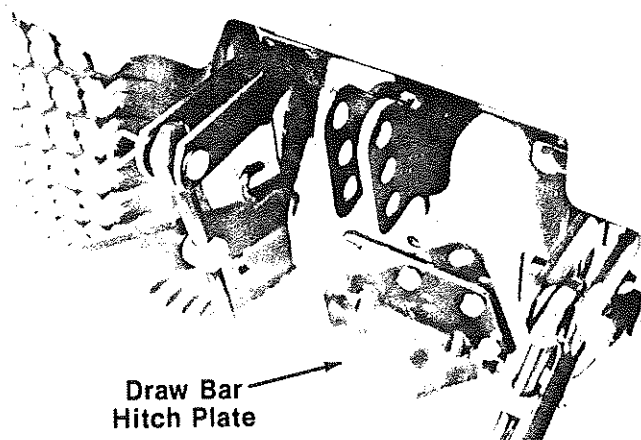

FIGURE 8.
9. Remove the draw bar hitch plate from the three point hitch plate assembly. See figure 8.